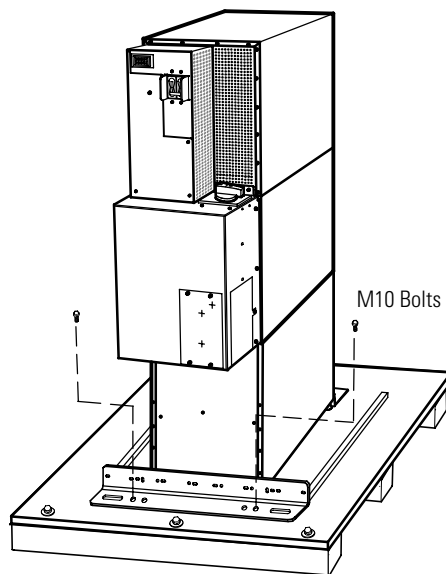

Figure 2. Removing the Stabilizing Bracket Bolts
1. Remove the two M10 bolts securing the stabilizing bracket to the pallet (see Figure 2).